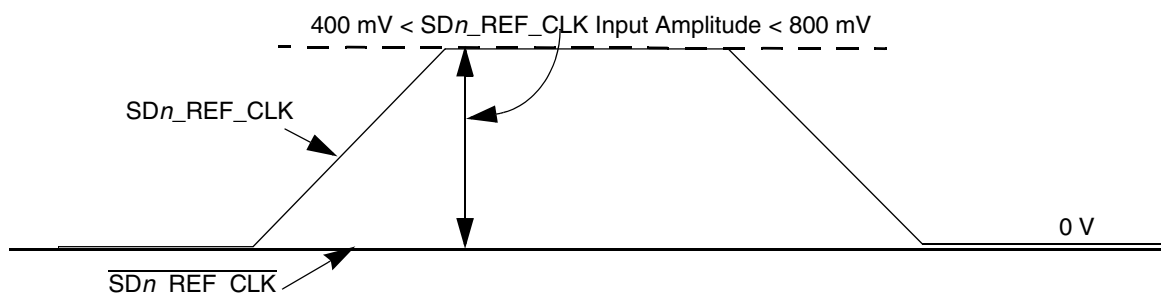

Figure 52. Single-Ended Reference Clock Input DC Requirements
- The SDn_REF_CLK input average voltage must be between 200 mV and 400 mV. Figure 52 shows the SerDes reference clock input requirement for single-ended signaling mode.